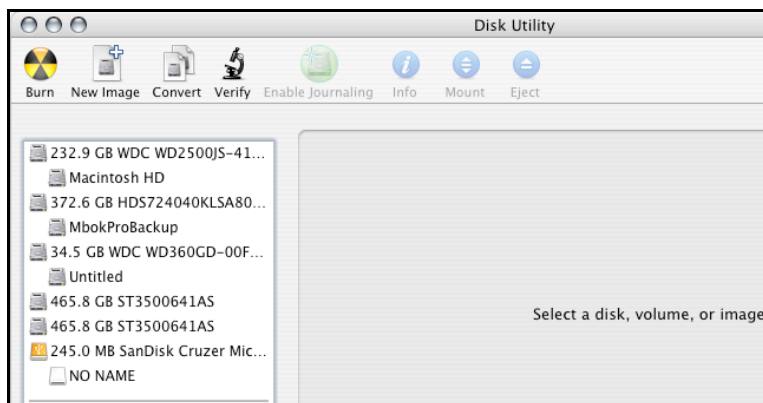

Figure 7: Example hard drive listing
2. Review the list of hard disks shown in *Disk Utility* (see Figure 7). Hard disks currently in use should have a volume name below their listing. New, unformatted disks typically have no volume name. Carefully select the hard disk you wish to format.
- Review the list of hard disks show within *Disk Utility* (see Figure 7). Hard drives currently in use should have a list of volume names below them. New, unformatted drives typically have no volume names listed.